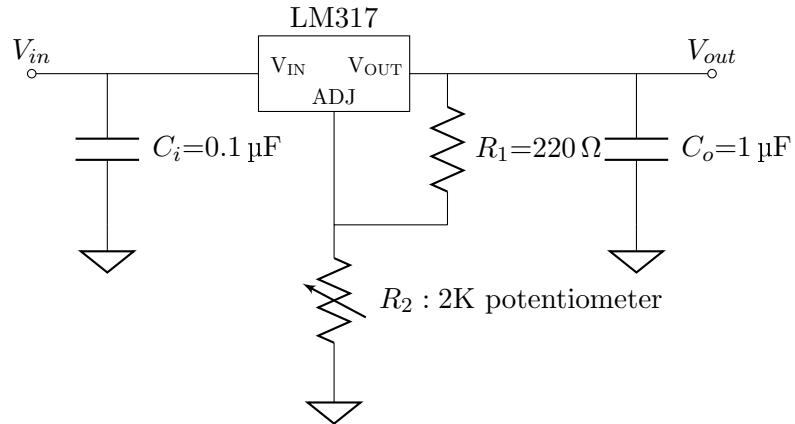
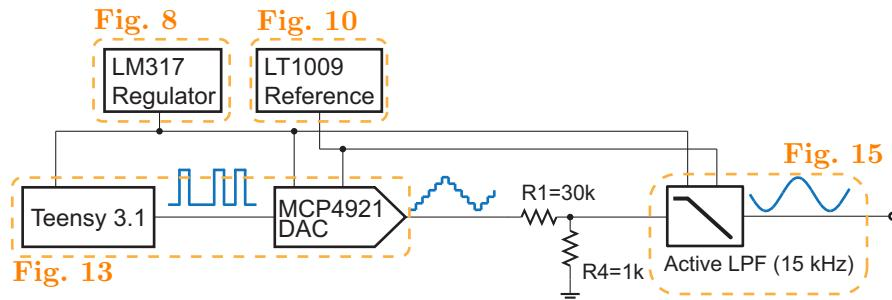

Figure 8: Schematic of the voltage regulator circuit using LM317.
Figure 18: Block diagram of the PCB design.
1. Using Fig. 8 as a reference, build the regulator circuit on the breadboard. You should be able to find the LM317 pinout diagram from its datasheet, which you find from online. *As a general suggestion, it is important to keep your circuit well laid out and keep the connecting wires as short as*
Design a PCB incorporating the circuits of Fig. 8, 10, 13, and 15. We will add a resistive attenuator circuit just so that the output does not easily saturate. Fig. 18 shows a high level block diagram of the PCB.